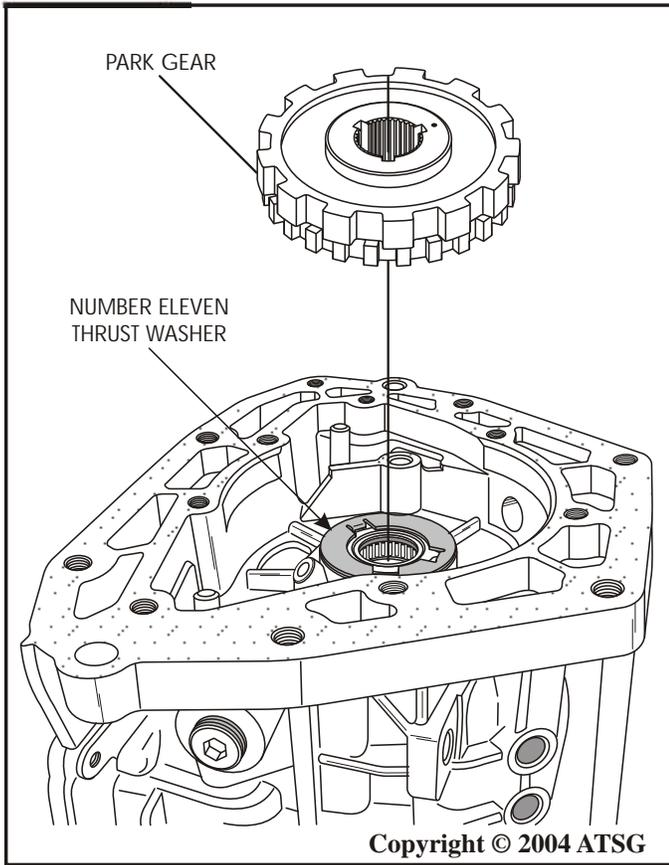

Figure 54
- 65. Remove the park gear, as shown in Figure 54.